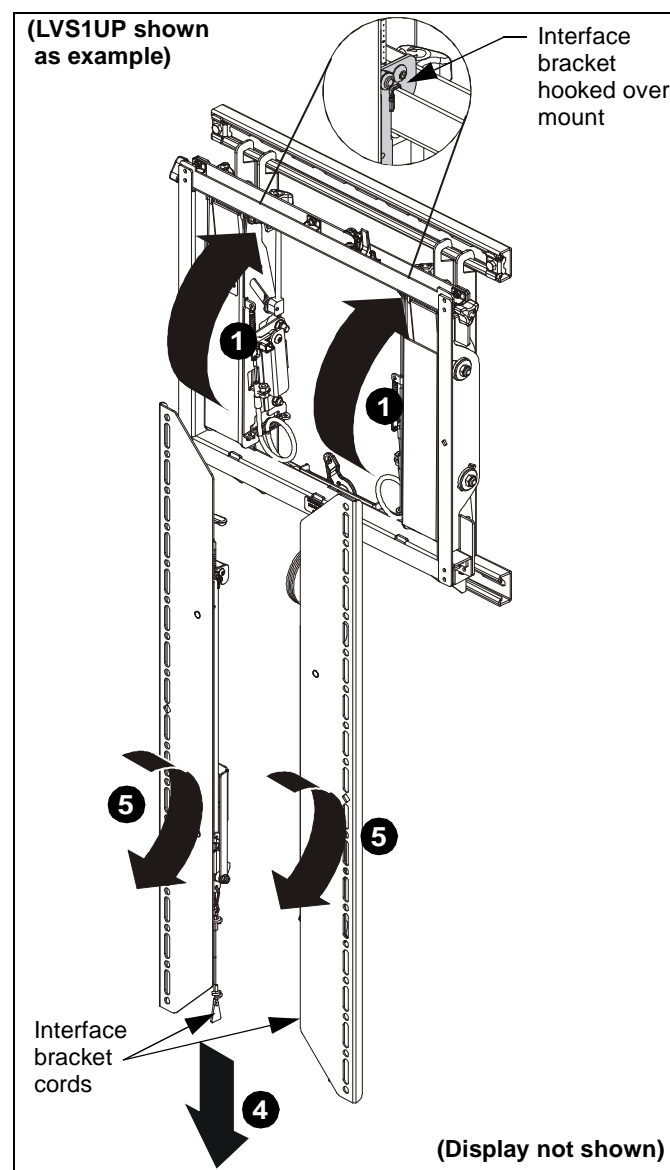

Figure 11
1. Raise display with attached interface brackets and hook top of brackets into top of mount. (See Figure 11)
4. The displays can be easily removed by pulling both interface bracket cords down. (See Figure 11)